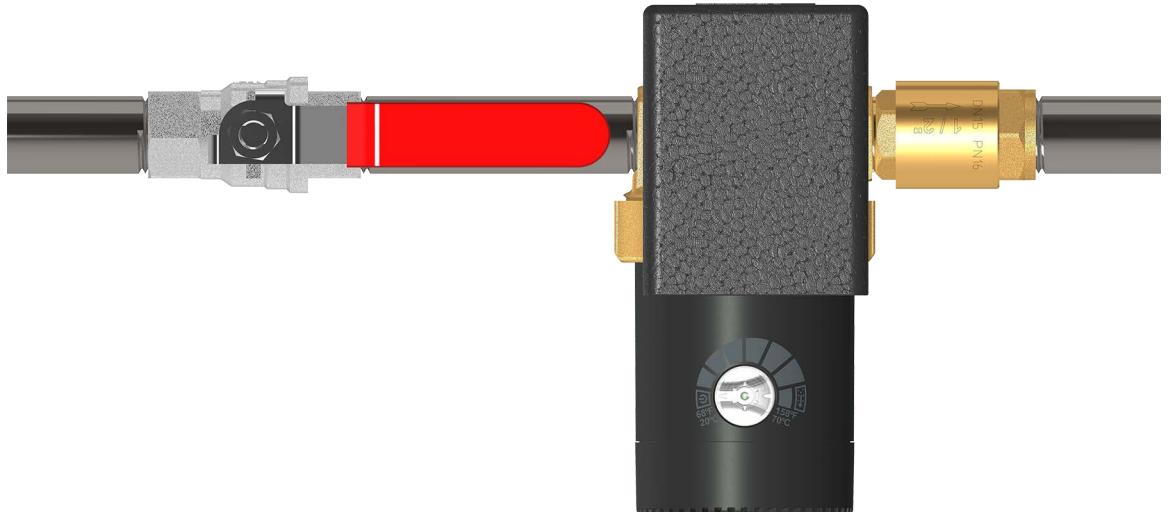

Figure 8
To save energy, insulate the pump housing with the matching thermal insulation shell (item 10 in Figure 3) included in the package (see Figure 8).